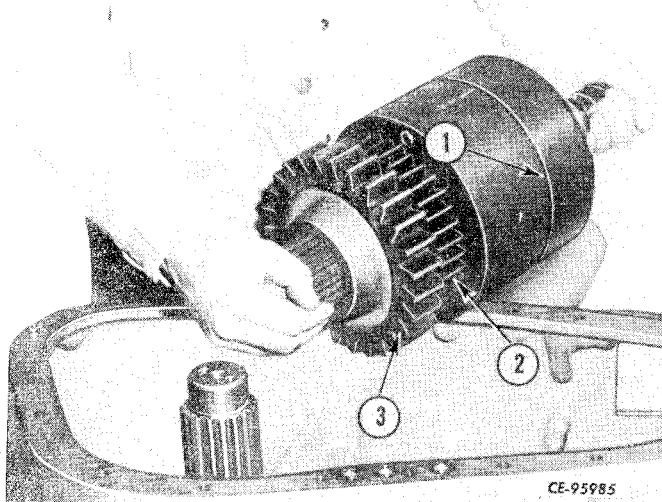

Figure 4-40
Remove the 2nd and 3rd speed pack (1, Fig. 4-40) with the 2nd speed drive gear (2) and the output drive gear (3). Refer to clutch packs.